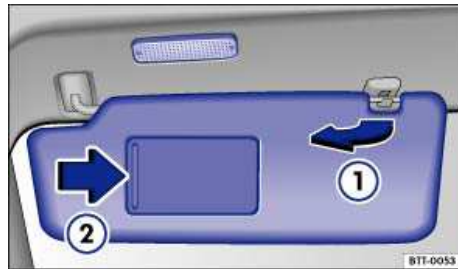

Fig. 104 Sun visor.
- Lift it out of the retaining clip ⇒ fig. 104 \(1\) and swivel it over toward the door.